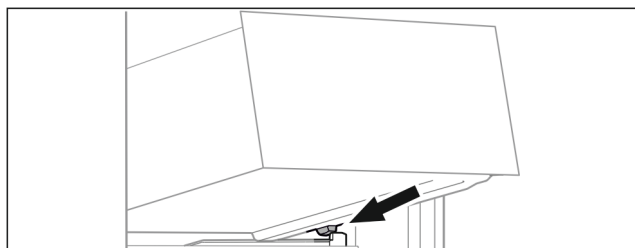

Fig. 138
- Place drawer at an angle behind the stoppers on the moulded rib. (see Fig. 138)